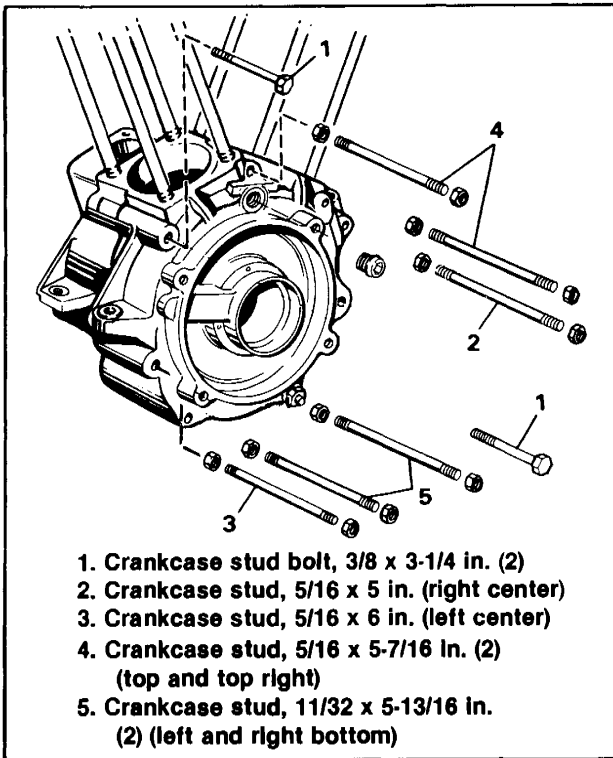

Figure 3-41. Crankcase Studs — Exploded View
4. See Figure 3-41. Remove crankcase bolts and studs (1 through 5). It is necessary to remove only one stud nut and slip stud and other nut out opposite side of crankcase.